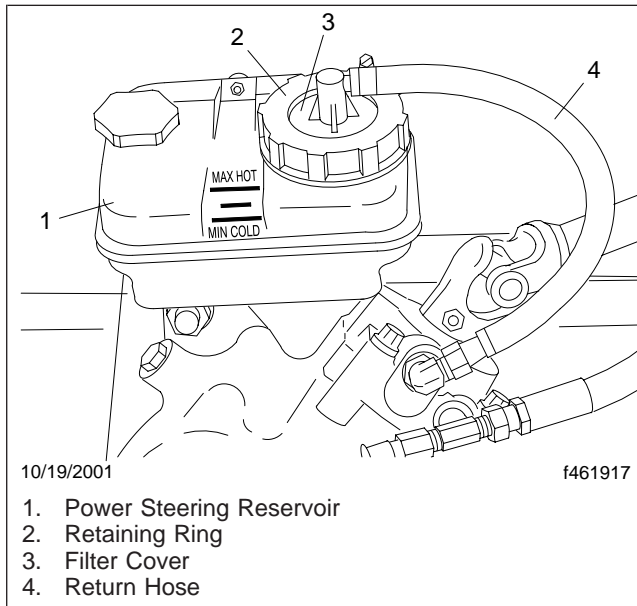

Fig. 4, Power Steering Reservoir
NOTE: If the power steering reservoir in the vehicle looks like the reservoir shown in Fig. 4, use the following procedure.
4. Remove the retaining ring from the reservoir. See **Fig. 4**.
8. Fill the reservoir with Dexron® III automatic transmission fluid to the line between the MIN COLD and MAX HOT lines. See **Fig. 4**.